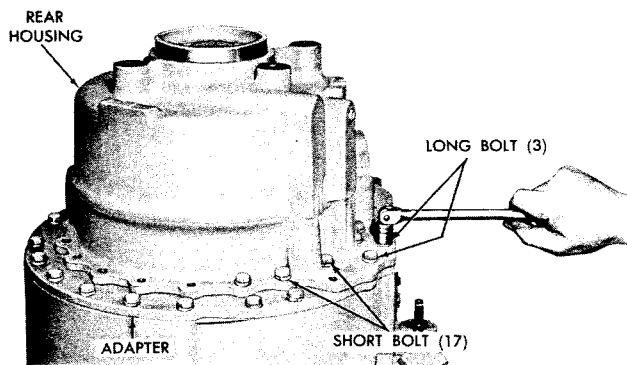

Fig. 5-16. Removing rear housing bolts (-1 model)
(1) Position the transmission, front downward, and remove 17 short bolts and three long bolts with lockwashers (fig. 5-16).